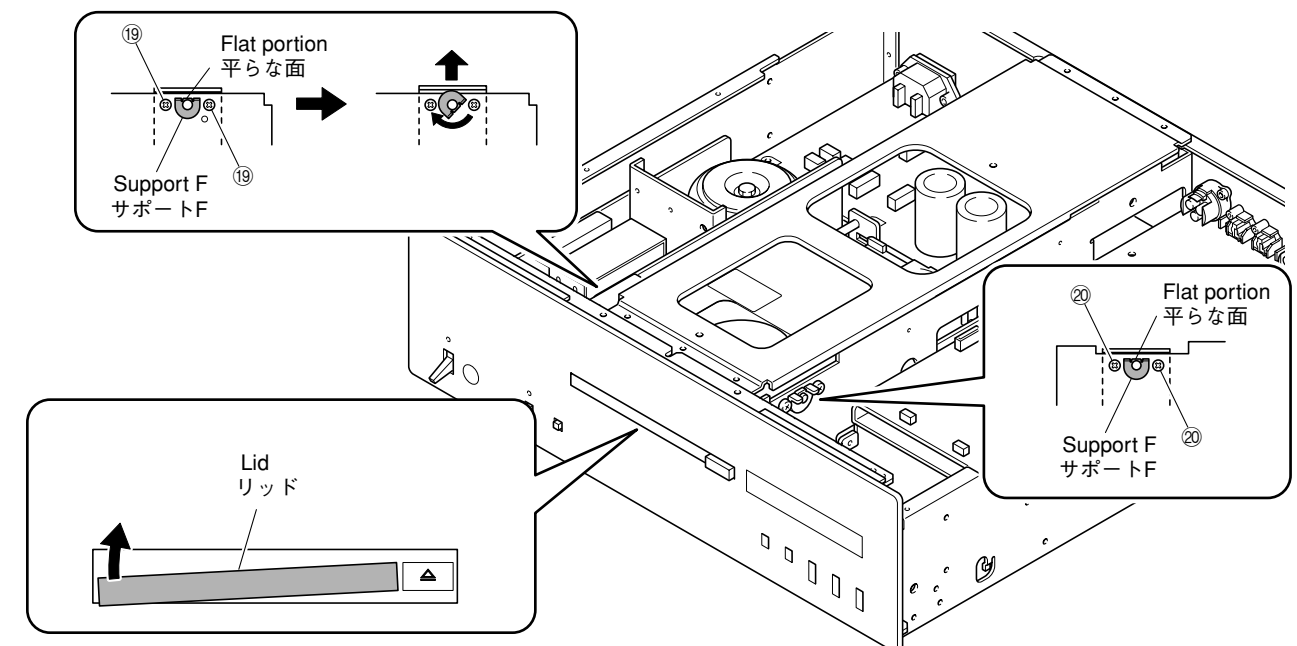

Fig. 7
- Loosen 2 screws (19) and 2 screws (20). (Fig. 7)
- Position the support F on both sides with its flat portion facing upward. (Fig. 7)
- Viewing from the front, confirm the lid position. (Fig. 7)
- Tighten the screws on the side with higher lid inclination (screws (20) in the case shown below). (Fig. 7)
- Turn the support F on the side with lower lid inclination clockwise gradually until the lid is positioned horizontally. (Fig. 7)
- With the lid adjusted at the horizontal position, tighten other screws (screws (19) in the case shown below). (Fig. 7) To change the position upward at this time, loosen screws (20) and then turn the support F clockwise gradually.
- 19のネジ2本、20のネジ2本を緩めます。(Fig. 7)
- サポートFの平らな面を上向きにします。(Fig. 7)
- 前面から見て、リッドの位置を確認します。(Fig. 7)
- リッドの傾斜が高い側のネジ(下図の場合、20のネジ)を締めます。(Fig. 7)
- リッドの傾斜が低い側のサポートFを時計回りにゆっくり回し、リッドの傾きが水平な位置になるようにします。(Fig. 7)
- リッドの位置でネジ(下図の場合、19のネジ)を締めます。(Fig. 7)